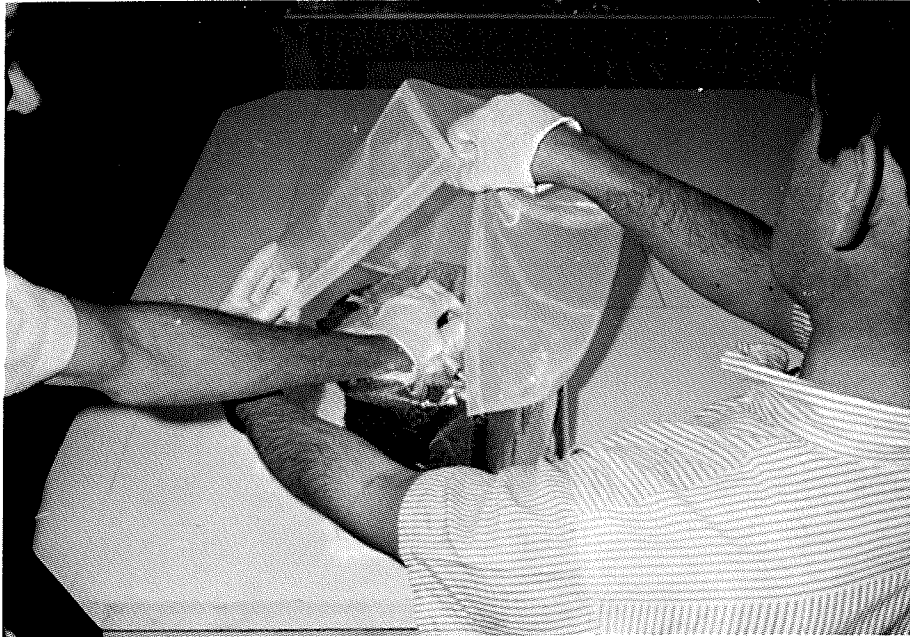

FIG. 11
**STEP 9.** While first person holds all insulation gathered at top with one hand, second person brings shroud stowage girdle over the arm of the first as in Figure 11. As girdle is brought down, first person slowly removes hand from inside girdle while at the same time holding insulation down with other hand from outside the girdle (Figure 12).